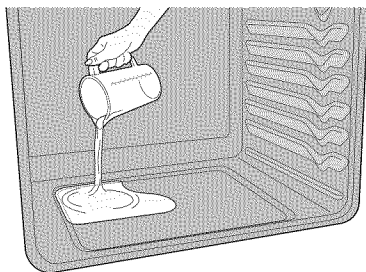

Figure 36: Add 8 ounces of distilled water
3. Pour 8 oz (227 ml) distilled or filtered water onto the oven bottom (Figure 36). Close the oven door.